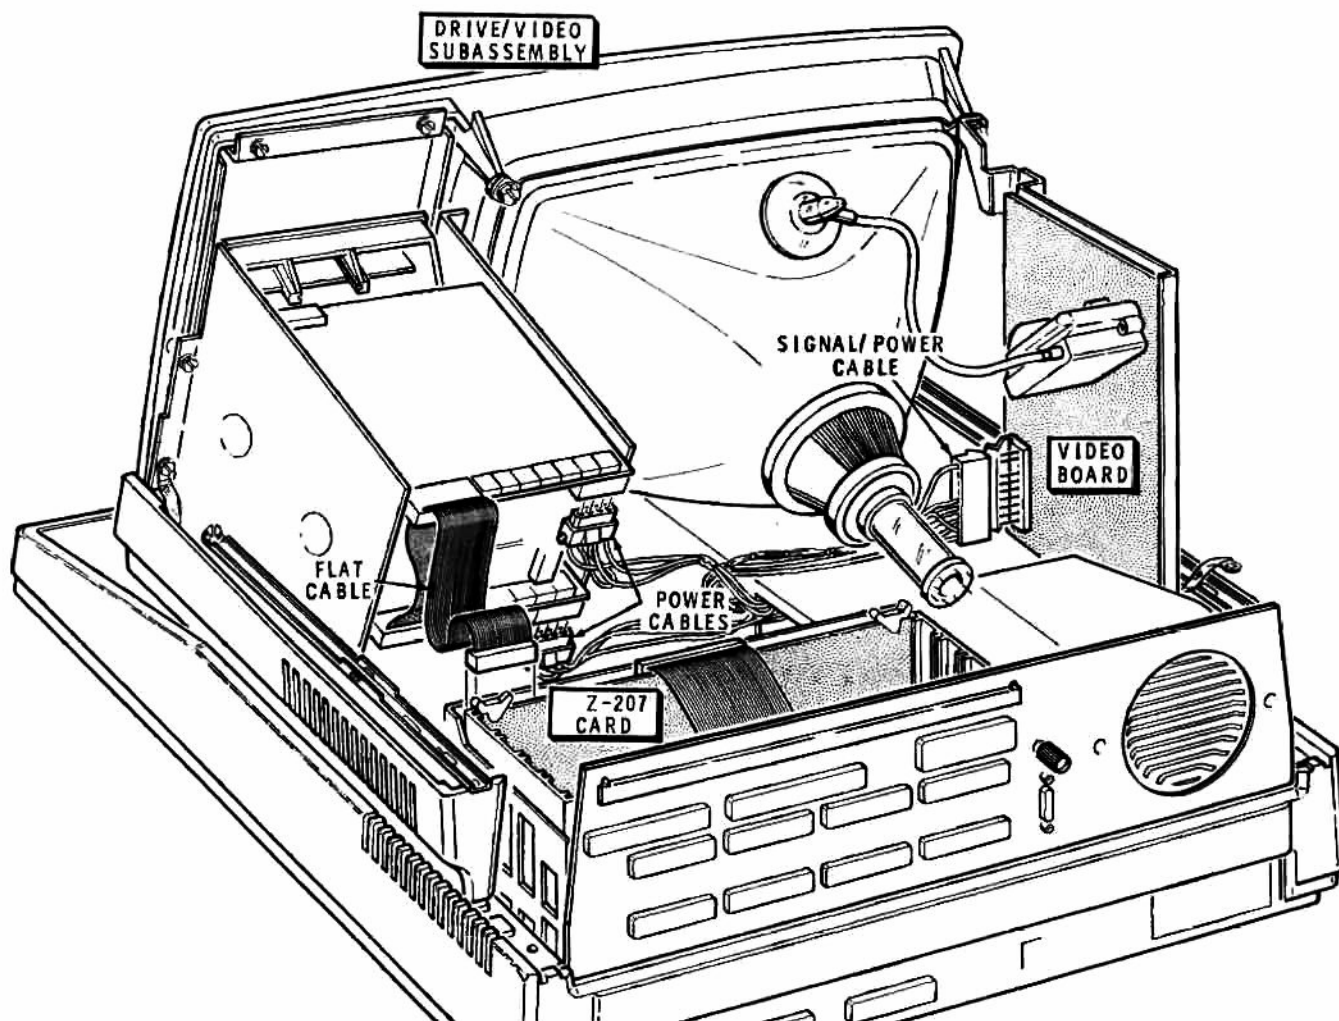

Figure 2.3. Drive/Video Subassembly Removal
- Refer to Figure 2.3 and carefully unplug the signal/power cable from the video board.